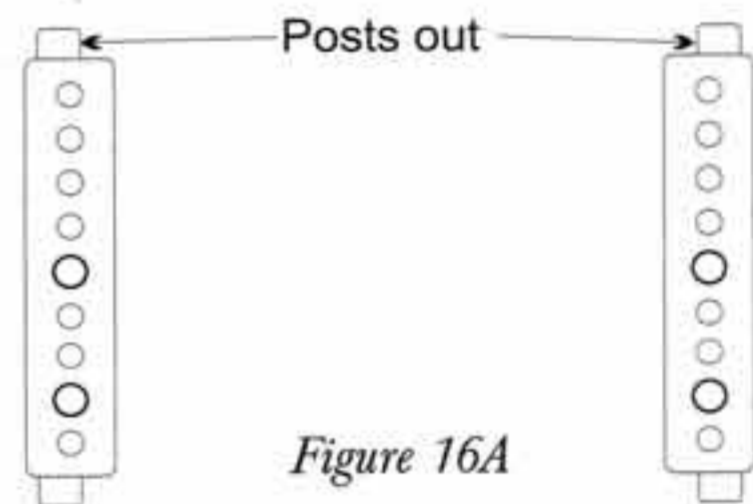

Figure 16A
❑ Step 13. Refer to Figures 16A and 16B. These are full-size drawings of the steering servo posts mounted in the two different configurations. Hold your servo up to these diagrams and align the mounting ears on your servo with the holes in the posts. This will determine how to mount the steering servo posts (40).
❑ Step 14. Once you have determined the mounting position of the steering servo mounting posts (40), place the posts (40) into the holes in the chassis (27) so that the posts are offset in the correct direction from Figure 16A or 16B.
**NOTE: If you do not have your radio system yet, or do not know which servo you will use for steering at this time, mount the posts according to Figure 16A and continue. The direction of the posts can be changed once you have determined which servo you will use.*